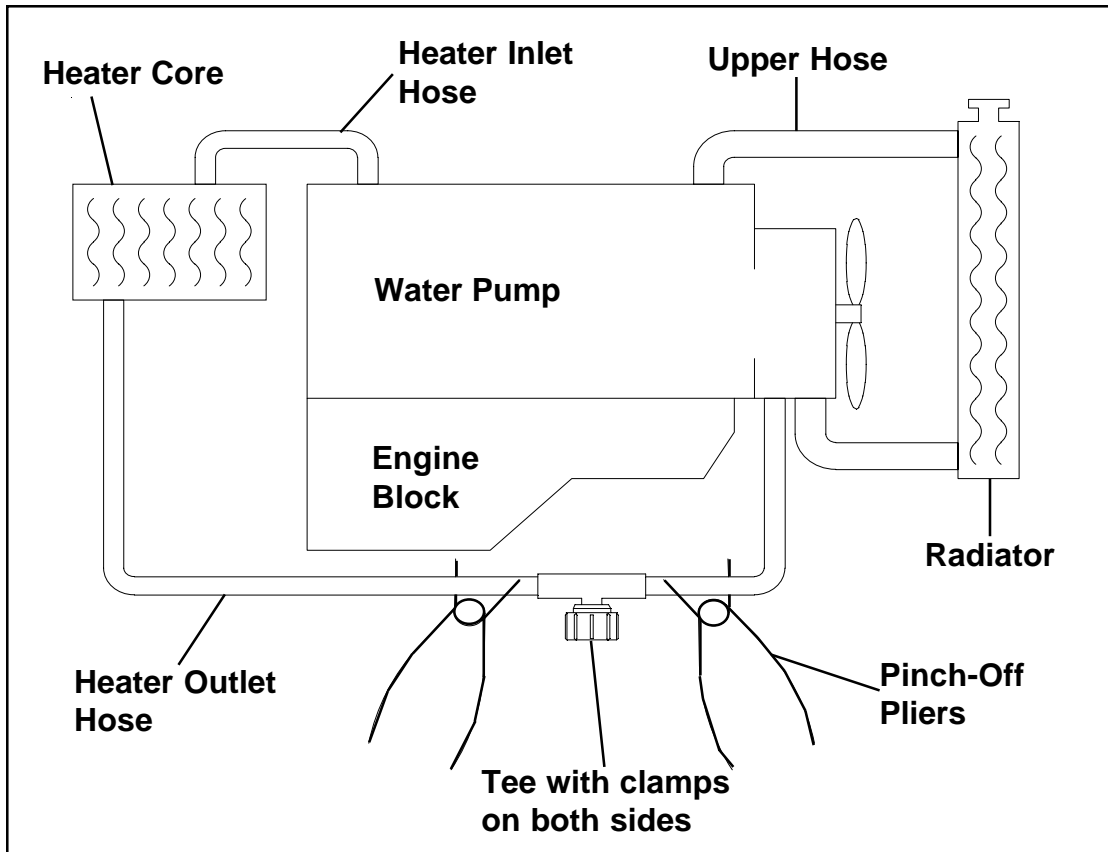

Figure 9 - Tee Installation
1. On the vehicle, locate the heater outlet hose that runs between the heater core (in the fire wall) and the water pump or radiator. The tee will be installed in the heater outlet hose (see Figure 9).